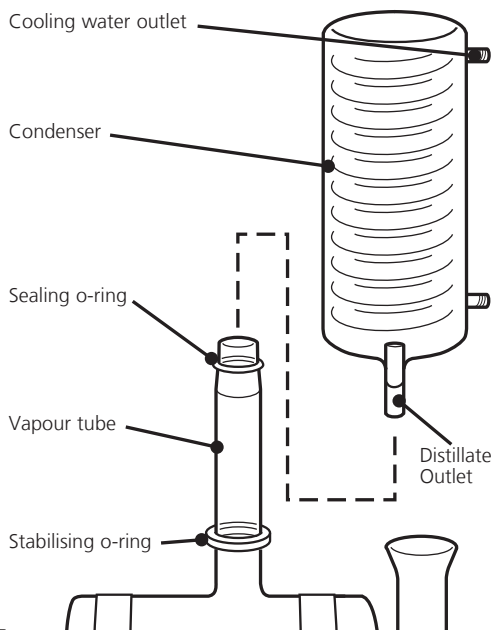

Fig. 3a
- Fit one of the condensers (Fig. 3, item 4) to the left hand vapour tube ensuring that the distillate outlet faces the front and the two water connections are parallel to the unit. When slight resistance is felt when fitting the condenser, press down slightly on the top of the condenser until a gap of approximately 19mm exists between the condenser and the boiler (Fig. 3a).